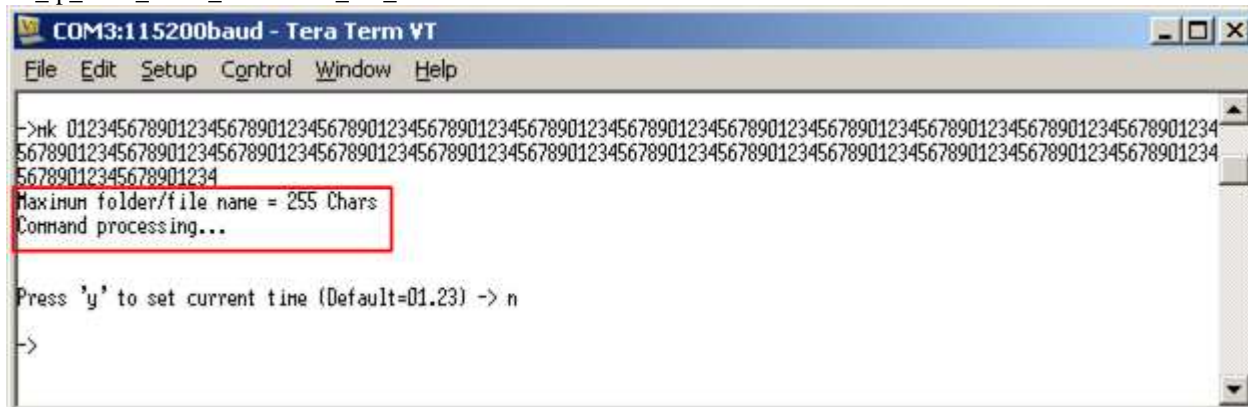

Figure 3-13 Maximum character received
- (3) Auto-running when directory name input is equal to 255 Character, as shown in Figure 3-13.